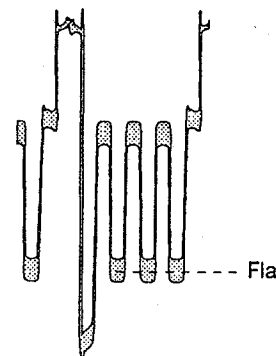

fig. 2.6A
5. Make adjustments using buttons "4" or "6" on the remote control until the waveform is as shown in figure 2.6A.